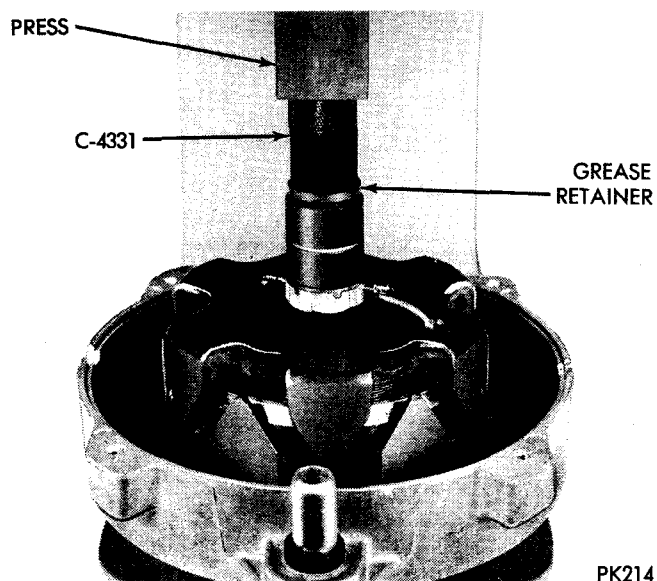

Fig. 58—Installing Grease Retainer
(1) Position grease retainer on rotor shaft and press retainer on shaft with installer Tool C-4331 (Fig. 58).